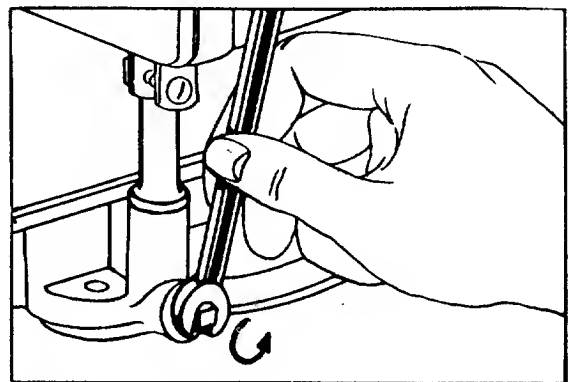

FIGURE 14. OIL DRAIN
After the first five hours of operating a new engine, drain the oil (see figure 14) from the crankcase while engine is still hot and refill crankcase with new oil; thereafter change the oil every 25 hours of operation. This procedure ensures for minimum wear of engine parts and provides for virtually trouble-free operation. To change the oil, proceed as follows:
- Step 1. With the machine on level ground, place a suitable metal container under the oil drain plug, then remove the drain plug. See figure 14.